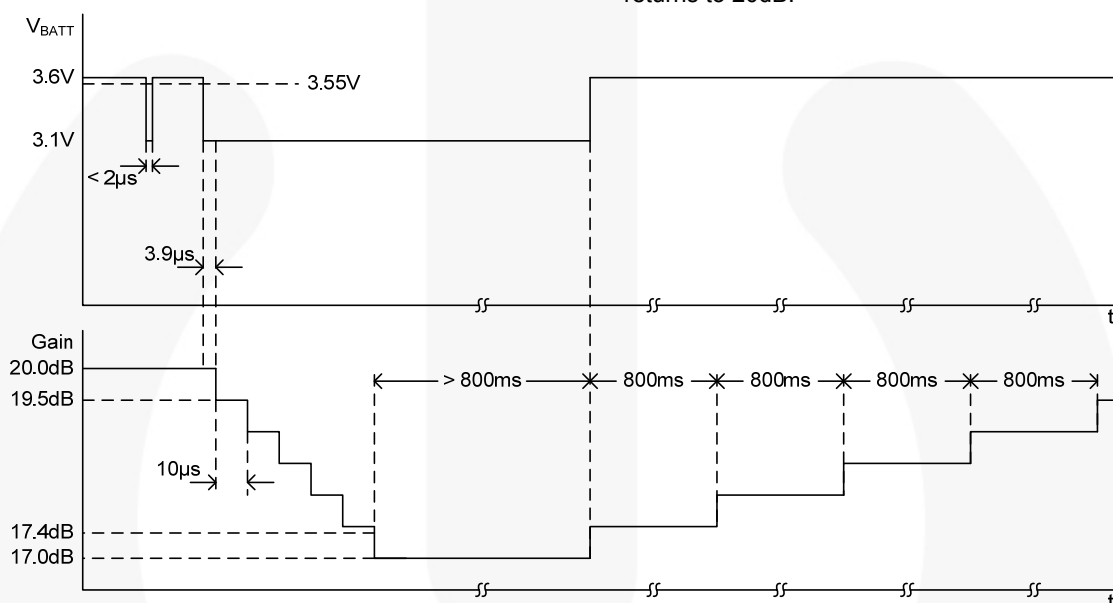
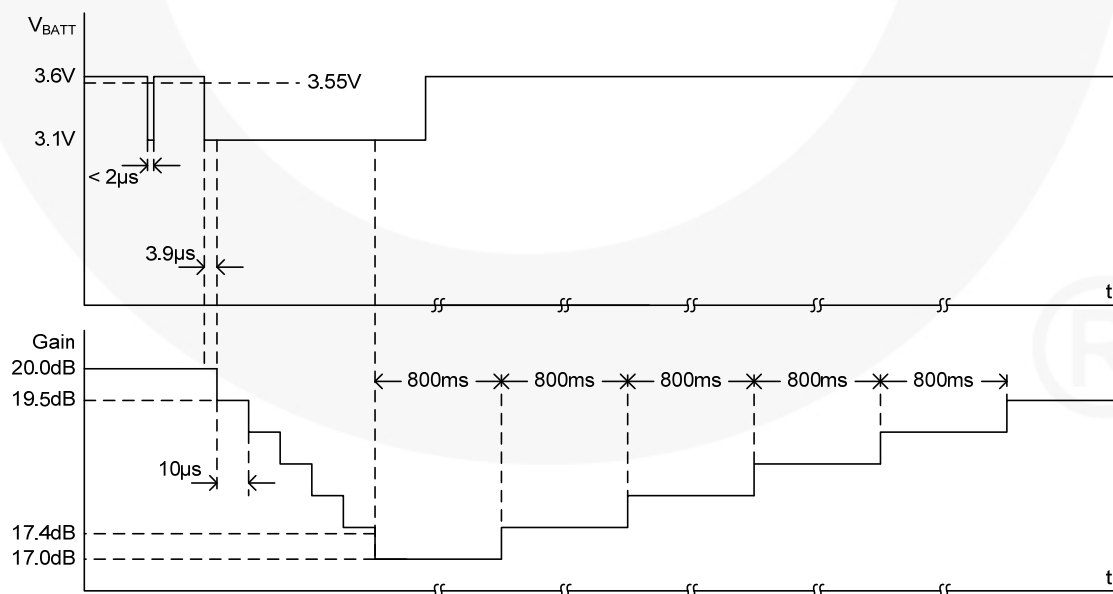

Figure 24. AGC Changes vs. Time, Example 1
Figure 25. AGC Changes vs. Time, Example 2
Figure 24 and Figure 25 show examples of AGC changes over time. In these examples, AGCT is grounded, so the AGC trip point is 3.55V.
- When V_{BATT} rises above the trip point, gain increases by 0.5dB. If more than 800ms has passed since the last gain change, gain rises immediately as shown in Figure 24. Otherwise, gain does not rise until after 800ms has passed, as shown in Figure 25.